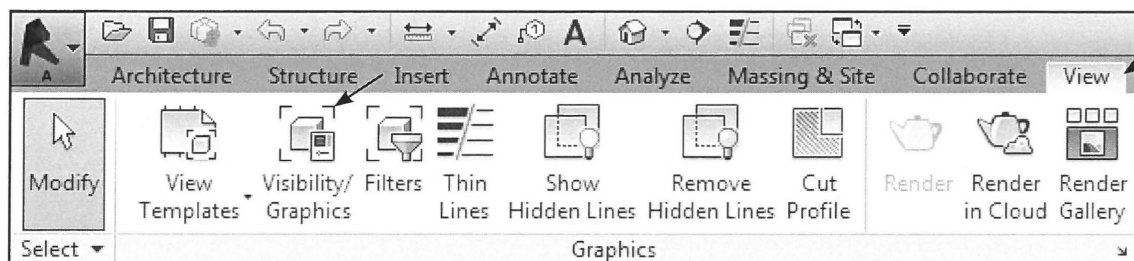

Fig. 14.03. View - Visibility/Graphics.
- Klik *View - Visibility/Graphics* (Fig. 14.03).